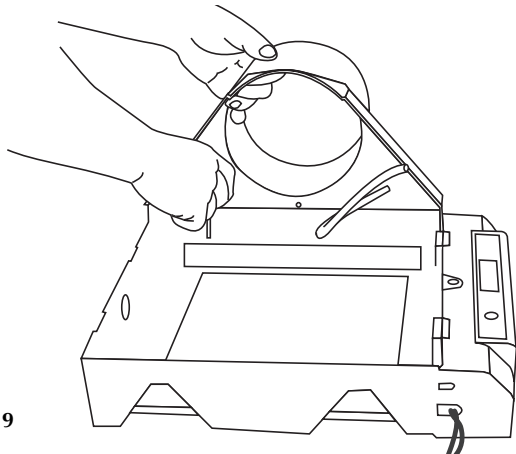

Figure 9
3. Remove the two #6 screws which hold the humidifier side in place (a short handled screw driver will give you easier access to the screws) (fig 9.)